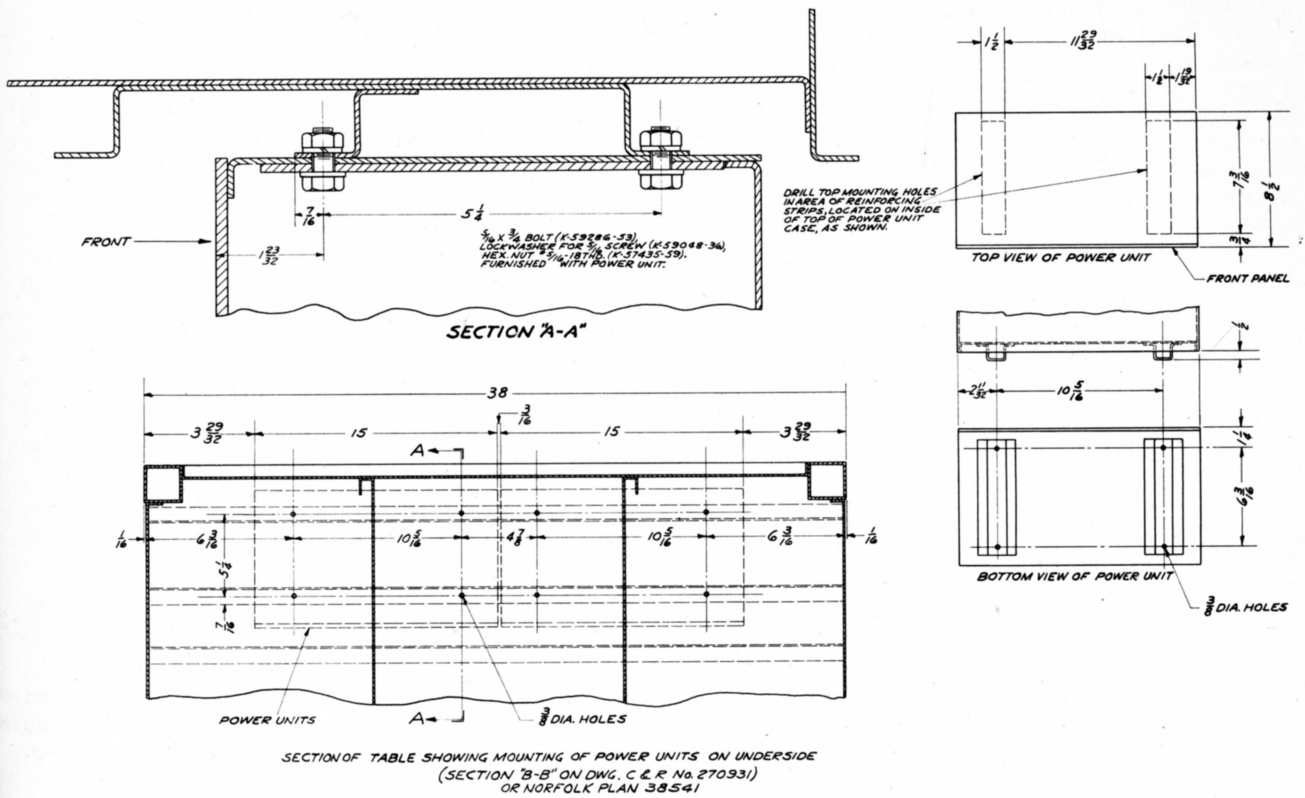

Figure 2-6 — Rectifier Power Unit, Mounting Diagram (PX-273650)
(1) The rectifier power unit is designed for mounting underneath an operating table without shock mounts. (Refer to Figure 2-6.) The unit may also be mounted on the surface of an operating table through holes in the mounting channels attached to the bottom of the case. These channels extend 1/2-inch below the edges of the case in order to provide ventilation for the unit.
(2) Remove the chassis from its cabinet by loosening the panel thumbscrews and withdrawing the chassis. When partially withdrawn, the chassis will strike stops which are released by pressing on the spring catches accessible through holes on each side of the chassis frame. If the equipment has been previously set up, the cables should be removed from the panel receptacles before the chassis is removed.
(1) Drill the operating table according to the lay-out shown on Figure 2-6. Section "AA" on this drawing shows drilling dimensions for the top of the rectifier power unit cabinet. The holes in the top of the cabinet must be located within the area of the reinforcing strips as shown in the top view.